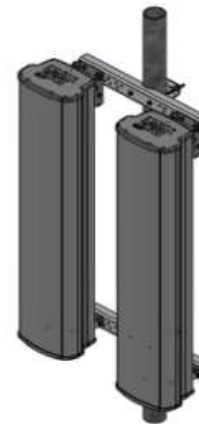

**Figure 5: Original middle bracket**
2. If antenna is already mounted, remove the existing middle bracket from the antenna and replace with mounting bracket J. See *Figures 5* and *6*.
4. Disregard middle bracket kit 919032. See *Figure 5*.